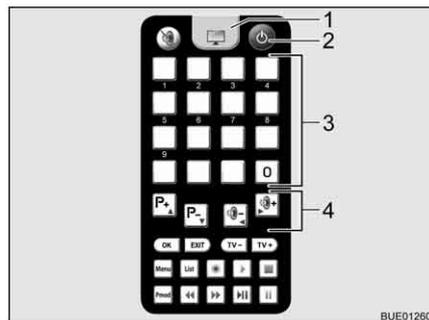

Fig. 26 Remote control
- Press the key "⏻" (Fig. 26,2) on the remote control.
- Use the memory buttons (Fig. 26,3) or the function buttons (Fig. 26,4) to set the required transmitter.